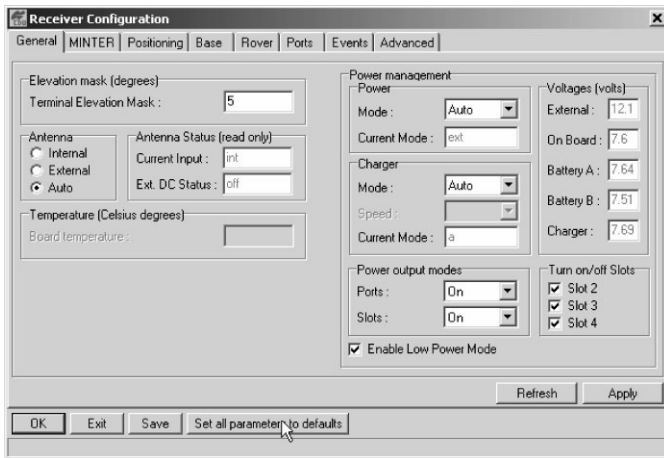

Figure 3-9. Set All Parameters to Defaults
8. Restore the receiver’s default settings. Click the **Set all parameters to defaults** button located at the bottom of the Receiver Configuration screen (Figure 3-9).